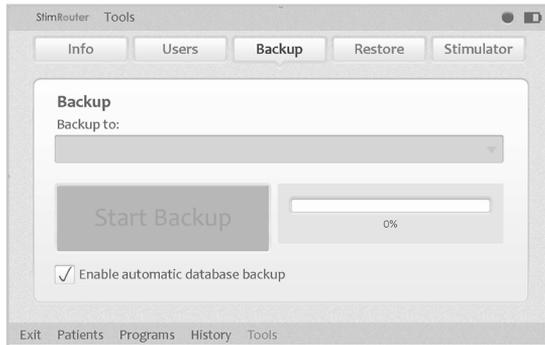

Figure 10-5: Backing up the Clinician Programmer database
1. Press “Tools” on the Menu Bar, press the Backup Tab, and then check “Enable automatic database backup”. The Clinician Programmer database will back up once daily and each time the software is exited. See Figure 10-5.
2. From the “Back up to” drop-down list, select SD Card drive, and then press the “Start Backup” button. See Figure 10-5.